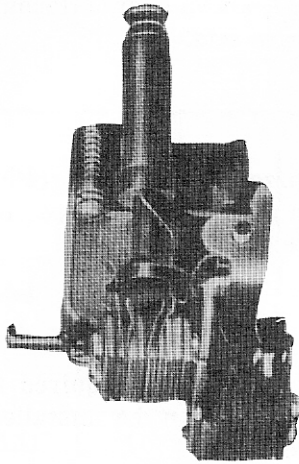

Fig. 3 — Exclusion Key Assembly Removed from Set (Key in Operated Position)
3.02 Fig. 3, 4, and 5 show internal parts of the 400 series sets.